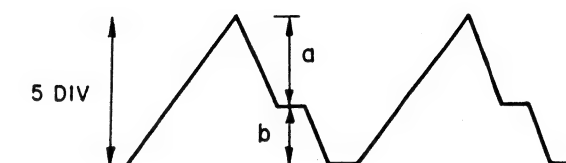

Fig. 9-2 Adjustment Waveform
4. When a waveform like that shown in Fig. 9-2 appears on the oscilloscope, adjust the oscilloscope gain so that the peaks agree with 5 Div. Then adjust VR001 so that a:b = 2.8:2.2. (Keep in mind that spurious noise is easily generated.)
6. Connect an oscilloscope (or a frequency counter) to pin ⑦ of PA2007 and confirm that output is 111Hz at 33-1/3 RPM and 150Hz at 45 RPM.
- Attach a dual trace oscilloscope to pins ⑮ and ⑰ of IC1 (PD5026).